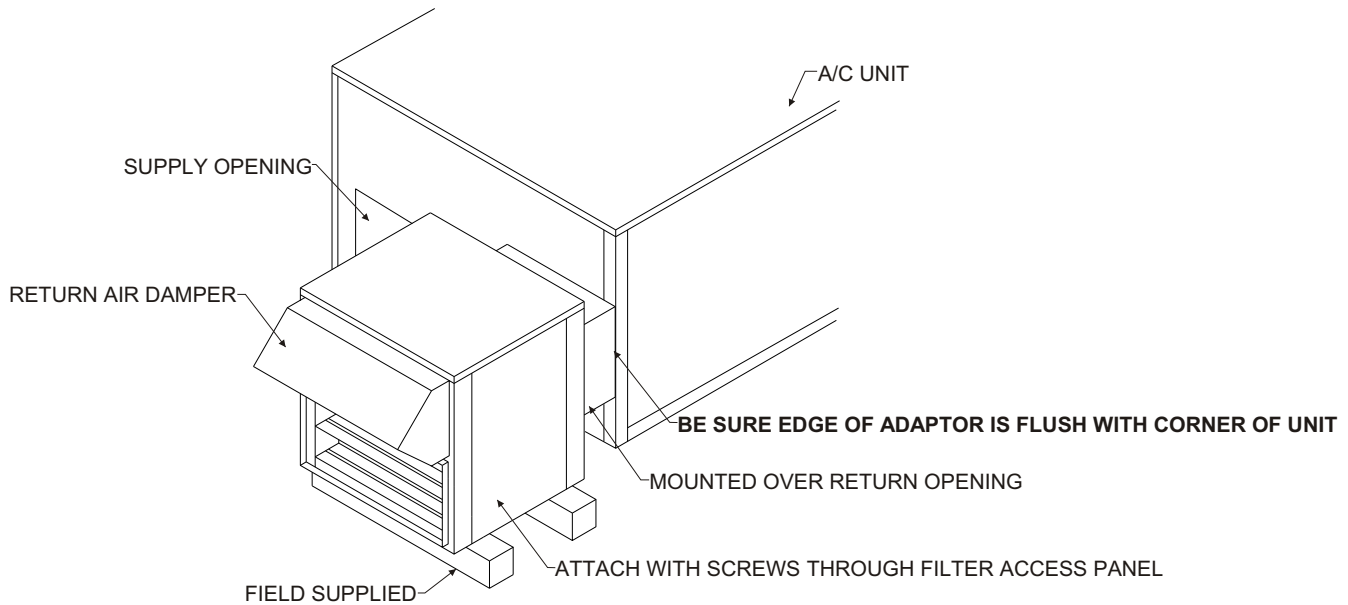

Figure 3
Remove start-up air filter from Economizer. Secure Economizer to unit using (8) screws as shown in Figure 3. Replace filter then filter access panel.